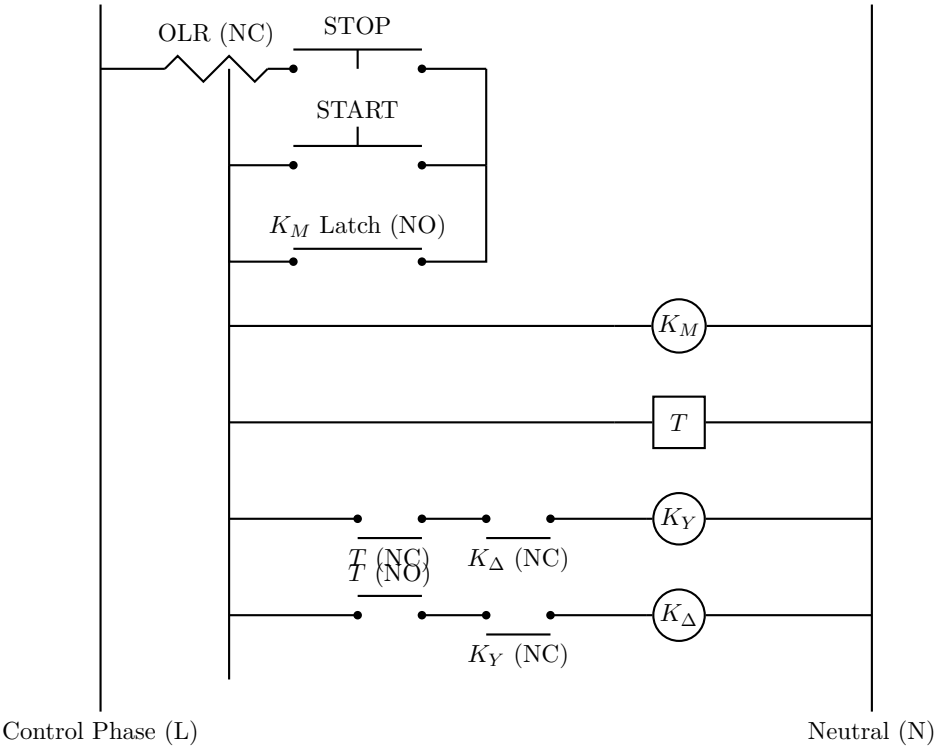

Figure 2.11: Ladder Logic Control Circuit of an Automatic Star-Delta Starter
- Activation:** As illustrated in Figure 2.11, the timer coil (T) is wired in parallel with the Main Contactor coil. The exact moment the Start button is pressed and locked in, the timer begins counting down its preset delay.
- Star Phase Maintenance:** The timer module possesses a Normally Closed (NC) contact. This contact is wired directly in series with the Star contactor coil (K_Y). While the timer counts, this contact remains closed, securing the continuous energization of the Star configuration.
4. **Delta Phase Initiation:** Simultaneously, the timer's Normally Open (NO) contact closes. Wired in series with the Delta contactor coil (K_{Δ}), this closure completes the circuit, pulling in the Delta contactor and completing the automatic changeover.